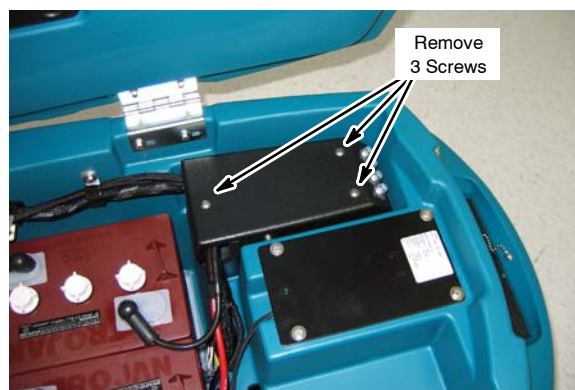

Fig. 2
2. Move to the front of the battery compartment and remove the control box cover to access the wire connections (Figure 2).